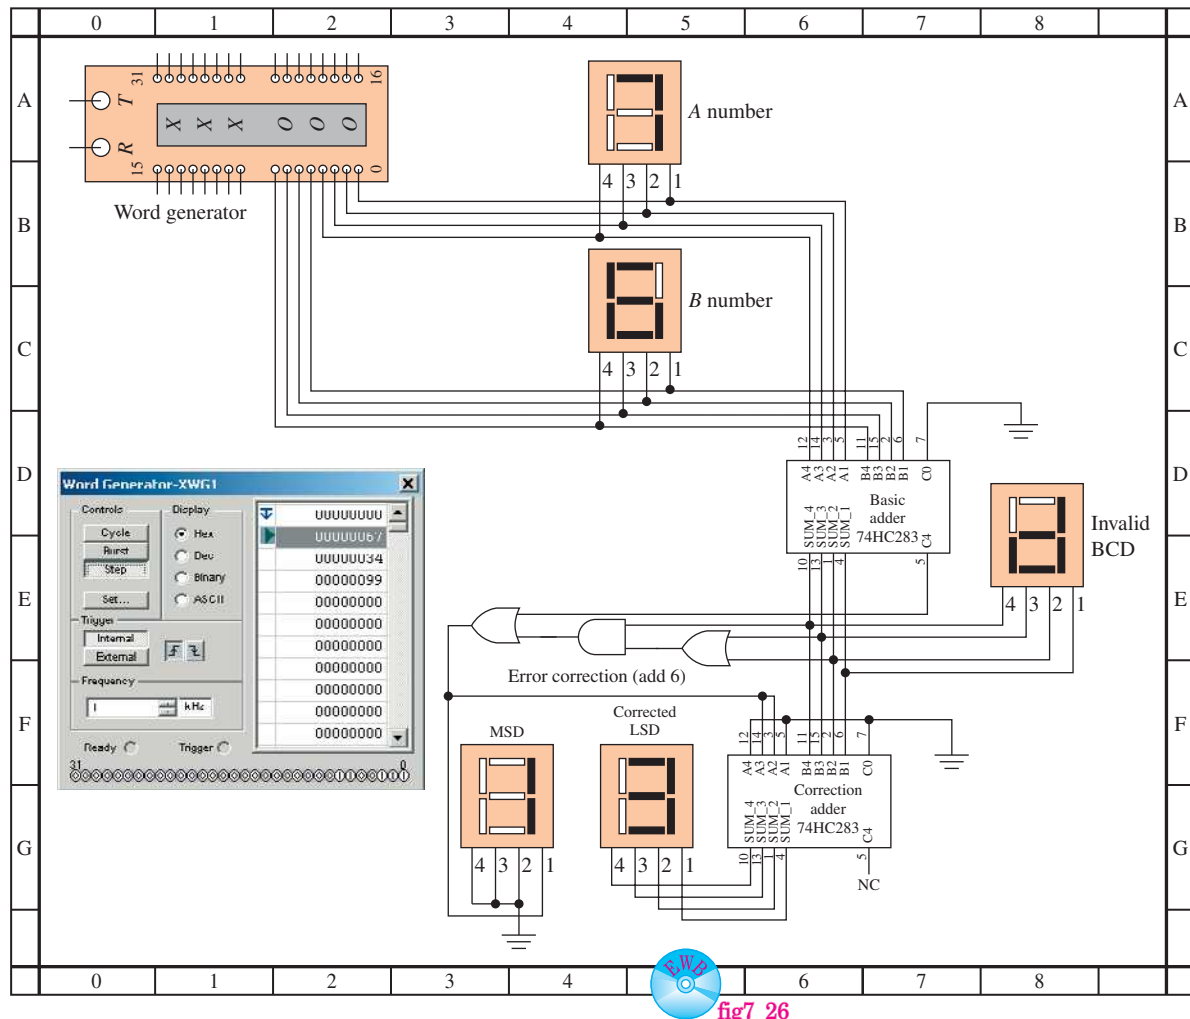

Figure 7–26 Simulation of the BCD adder with correction circuitry and hex displays.
Familiarize yourself with the operation of Figure 7–25 by testing the addition of several other BCD numbers.
In Figure 7–26, the MultiSIM[®] software is used to illustrate the operation of the BCD adder. Hexadecimal displays were added in strategic locations
MultiSIM® Exercise: Use MultiSIM® to open the file *fig7_26* from the textbook companion website. Double-click on the Word Generator, run the simulation, and press the step button to observe the addition of $6 + 7$.
7–20. The complementing switch in Figure 7–24 is placed in the 1 position to subtract B from A . Explain how this position converts the binary number on the B inputs into a signed two’s-complement number.
7–21. What is the purpose of the AND and OR gates in the BCD adder circuit of Figure 7–25?
The ALU that we learn to use in this section is the 74181 (TTL) or 74HC181 (CMOS). The 74181 is a 4-bit ALU that provides 16 arithmetic plus 16 logic operations. Its logic symbol and function table are given in Figure 7–27. The mode control input (M) is used to set the mode of operation as either *logic* ($M = H$) or *arithmetic* ($M = L$). When M is HIGH, all internal carries are disabled and the device performs *logic operations* on the individual bits (A_0 to A_3 , B_0 to B_3), as indicated in the function table.